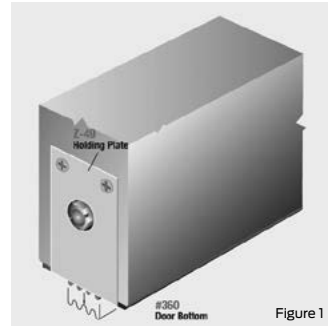

Figure 1
- Removable end plates for mortised door bottoms** (Figure 1): Designed to secure mortised door bottoms to doors, while allowing door bottoms to be removed for cleaning or other purposes without taking the door off the frame. They are especially suitable for use at openings where traffic is heavy and cleanliness standards are high, including patient room and corridor doors, as well as surgical and other “clean” areas. This practical option facilitates the use of mortised door bottoms to meet regional accessibility code requirements, as applicable, for keeping lower door bottom sections clear of obstructions. And it enhances the common use of mortised door bottoms preferred for wood doors.
Figure 1: Easy-access holding plates are ideal for healthcare facilities subject to higher standards and routine inspections for cleanliness. Designed to secure mortised door bottoms to doors, while allowing door bottoms to be removed without removing door from the frame.